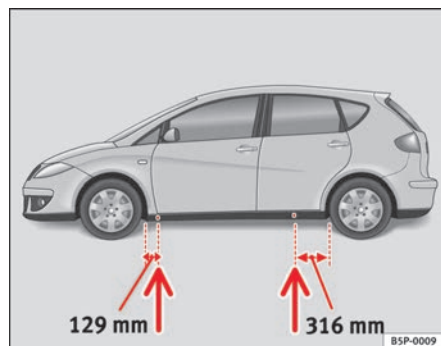

Fig. 171 The jacking points
- Locate the jacking point under the door sill closest to the wheel to be changed ⇒ fig. 171.
Recesses at the front and rear of the door sills mark the jacking points ⇒ fig. 171. There is only one jacking point for each wheel. Do not fit the jack anywhere else.